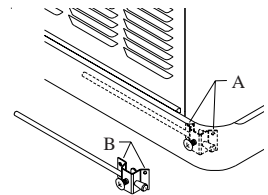
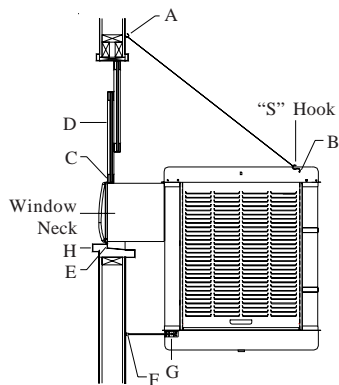

Fig. 2
Fig. 3
- **NOTE: If installing unit without the use of the installation kit, omit these directions and those pertaining to Fig. 3.**
- Remove two corner screws in the bottom pan (A-Fig 2).
- Place the house leg bracket in the corner of the bottom pan, using the two top holes in the bracket (B-Fig 2). Replace the two previously removed screws to hold the house leg bracket in place (As shown by dotted house leg bracket).
- **Screw chain hooks into window facing.** Position the two chain hooks above the neck of the cooler a distance equal to the width of the cooler apart (A-Fig. 3). Hook one hanger chain in each hook and then one “S” hook in the other end of each chain.
• **Position cooler in window.** Position neck of cooler so that bottom of neck flange rests on window sill and flange (E-Fig. 3) is snug against edge of sill (H-Fig. 2). With cooler in position, hook the “S” hooks into the holes of the top pan near the back of the cooler (B-Fig. 3).
• **Place window behind retainer strip.** Raise back of cooler so that the window (D-Fig. 3) may be brought down behind top of panel retainer strip (C-Fig. 3).
• **Adjust house legs.** Pull out house legs so that the rubber bumpers rest against house siding (F-Fig. 3). Tighten screw in retaining collar. (G-Fig. 3).